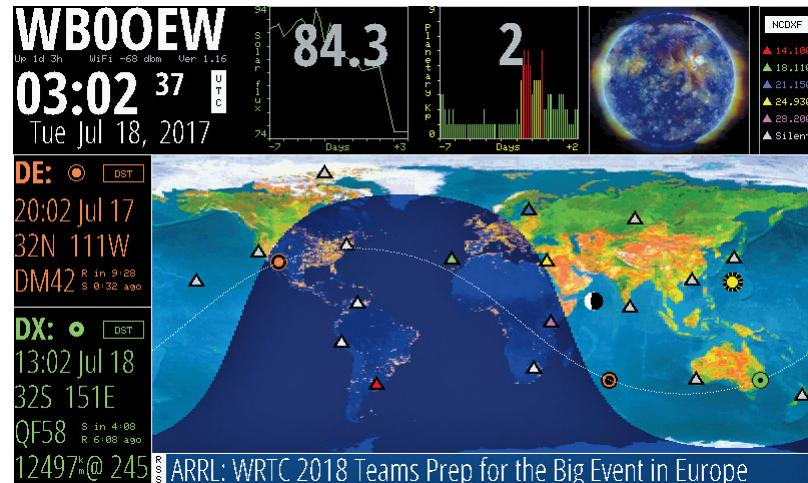

Figure 1 — The screen display of the HamClock.
A cylindrical projection of a color world map dominates the screen in a feature-rich presentation. In Figure 1, you can see the day and night terminator, the projections of the overhead Sun and Moon, the locations of the home (DE) and remote (DX) operators, the antipode of DE, and optionally, the locations and current transmission frequency of the NCDXF propagation beacons. Tap on the touchscreen map to set a new DX location, and hold for a second to set a new DE location.